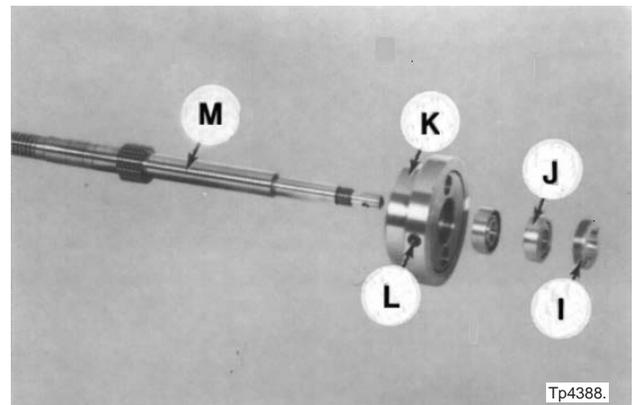

Figure 2.5 - Cross Slide Feed Screw and Components
10. Remove nut "I", two bearings "J", and feed screw "M" from end cap "K", Figure 2.5 .
1. Assemble feed screw "M", two bearings "J", nut "I", and end cap "K", Figure 2.5 .
12. Loosen set screw "L", Figure 2.5 .
14. Tighten set screw "L", Figure 2.5 .